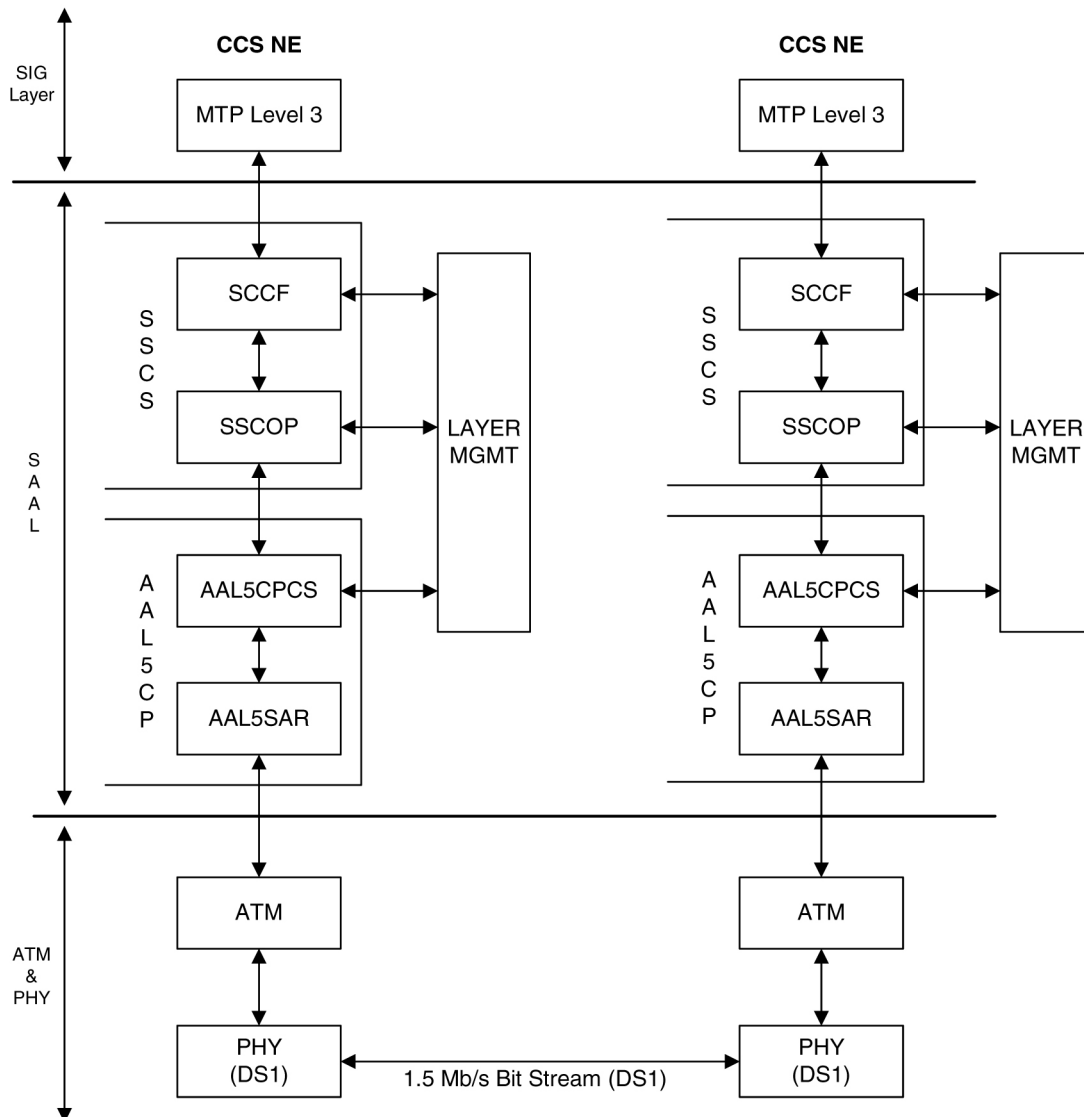

Figure 33: High-Speed Link Protocol Model for CCS Network Elements
Signaling data link functions (MTP-1) are provided by an appropriate physical layer in combination with the ATM layer, signaling link functions (MTP-2) are provided by the Signaling ATM Adaptation Layer (SAAL), and the signaling network functions are provided by MTP level 3. Figure 33: High-Speed Link Protocol Model for CCS Network Elements illustrates the high-speed link protocol model for CCS NEs.
- support for the DS1, ATM, and AAL5CP layers of the ATM high-speed signaling link protocol stack as indicated in *Figure 33: High-Speed Link Protocol Model for CCS Network Elements*.